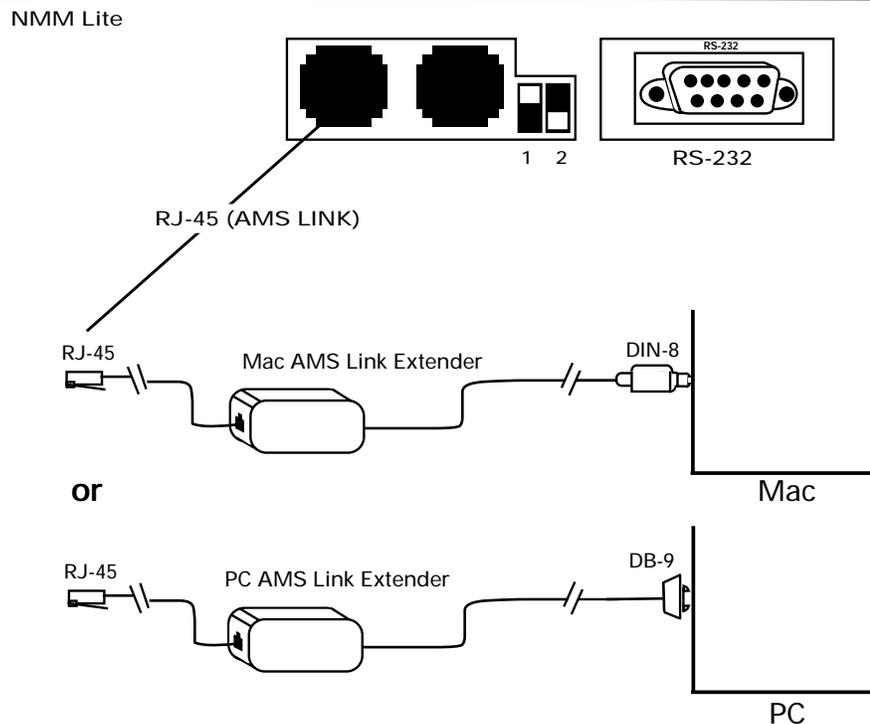

Figure 5 Using an AMS Link port to connect to a Management Station (Macintosh or PC)
- 1** Connect one end of the AMS Link Extender to a PC or Macintosh and the other end to an AMS Link connector port. Figure 5 shows how to make this connection.
- 2** Set DIP switches on the hub as shown in Figure 5.